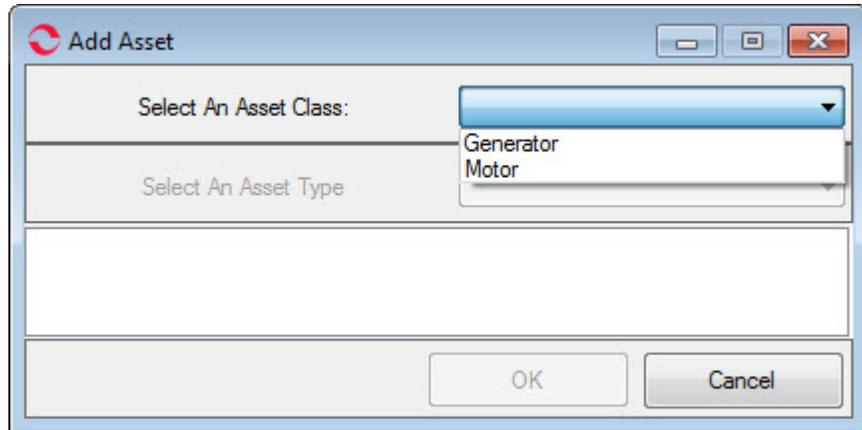

Figure 3-15: Add Asset - Select An Asset Class
- In the Add Asset window shown in Figure 3-15, use the drop-down menu to select an asset class. Currently the choice is either generator or motor. When the asset class is selected the Select An Asset Type drop-down menu becomes active as shown in Figure 3 - 16. The choices are dependent on the asset class selected. Select an asset type.